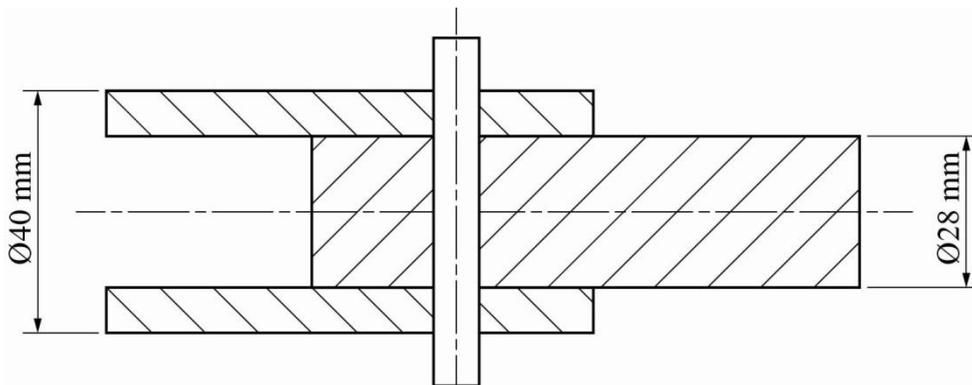

Fig Q4
- (a) the acceleration of the load when being raised if the tension in the cable is 8.5 kN; (6)
- (b) the acceleration of the load when being lowered at 9 m/s if the tension in the cable is 9.81 kN; (3)
- (c) the acceleration of the load when being lowered if the tension in the cable is 11 kN; (3)
- (d) the driving power required at the drum when raising the load at 4 m/s and causing an upwards acceleration of  $0.3 \text{ m/s}^2$ . (4)
4. A drive shaft comprises a solid steel shaft of 28 mm diameter which is a sliding fit in a hollow shaft of outside diameter 40 mm. The two shafts are connected by a shear pin as shown in Fig Q4. The torsional shear stress in the solid shaft is not to exceed  $24 \text{ MN/m}^2$ , whilst the pin material will shear at a stress of  $80 \text{ MN/m}^2$ .